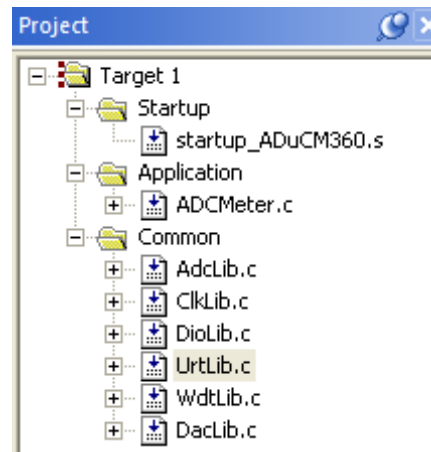

Figure 31. Project Files
2. Add all the files listed in Figure 31 from the directory `\ADuCMxxxV1.3\Code\ADuCM360\common`. The **Startup** file is located in the RealView folder.